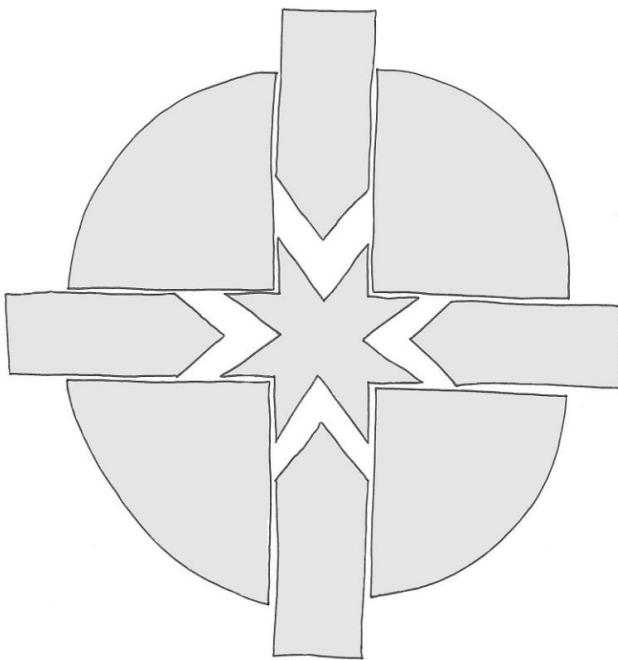
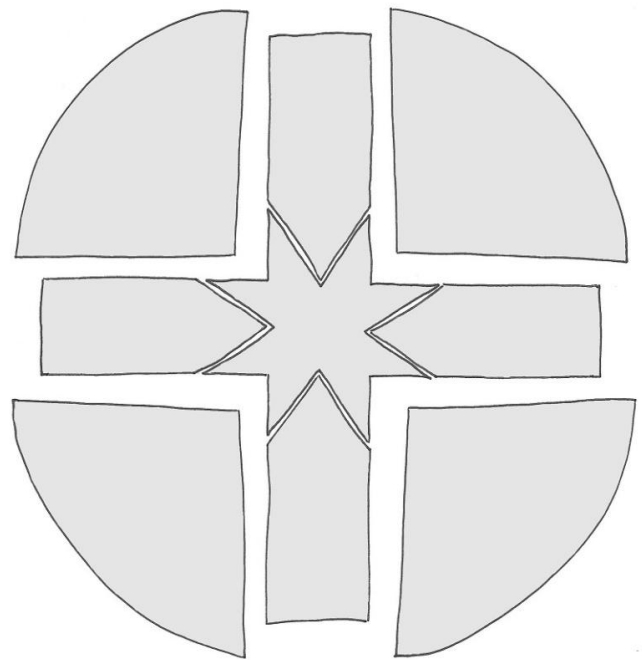

Figure 80: Wrong Order
Figure 81: Right Order
- **Panel Closure Order:** The order in which the panels come together can be a help or a hindrance to smooth operation. When the main surface panels (90° "pie wedges") come together they self-align to a certain degree. When they are coming together in the expanded position, however, if the main panels come in first they can "trap" the raising panels on either side, Figure 80, requiring an external tap to reach their final position. Figure 81 shows the best order, which allows us to take advantage of the pieces' shape.